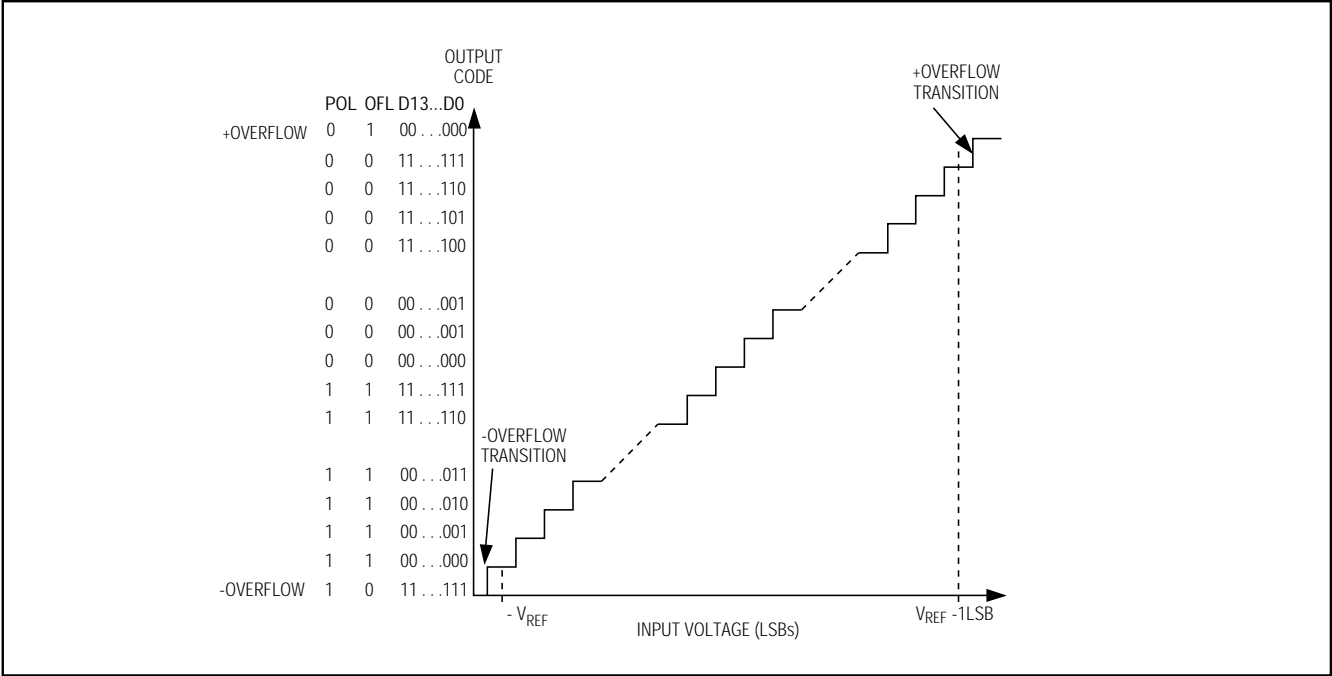
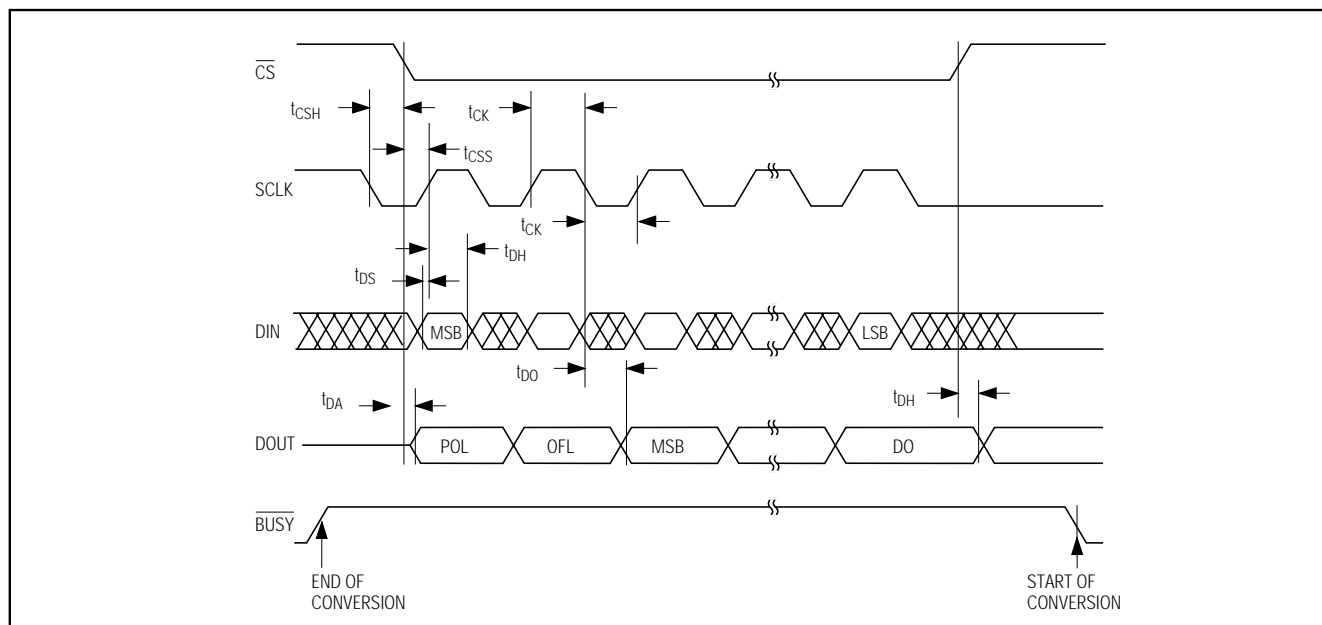

Figure 4. Differential Transfer Function
Figure 6. Detailed Serial-Interface Timing
The output data from the MAX110/MAX111 is arranged in twos-complement format (Figures 4, 5). The sign bit (POL) is shifted out first, followed by the overrange bit (OR), and the 14 data bits (MSB first) (see Figure 6). The MAX110 operates from $\pm 5V$ power supplies and converts low-frequency analog signals in the $\pm 3V$ range when using the maximum reference voltage of $V_{REF} = 3V$ ($V_{REF} = V_{REF+} - V_{REF-}$). Within the $\pm 3V$ input range, greater accuracy is obtained within $\pm 2.5V$ (see *Electrical Characteristics* for details). Note that a negative input voltage is defined as $V_{IN-} > V_{IN+}$. For the MAX110, the absolute voltage at any analog input pin must remain within the $(V_{SS} + 2.25V)$ to $(V_{DD} - 2.25V)$ range.
Data is transferred into and out of the serial I/O shift register by pulling \overline{CS} low and applying a serial clock at SCLK. This fully static shift register allows SCLK to range from DC to 2MHz. Output data from the ADC is clocked out on SCLK’s falling edge and should be read on SCLK’s rising edge. Input data to the ADC at DIN is clocked in on SCLK’s rising edge. A new conversion begins when \overline{CS} returns high, provided the MSB in the input control word (NO-OP) is a 1 (see *Using the MAX110/MAX111 with MICROWIRE, SPI, and QSPI Serial Interfaces*). Figure 6 shows the detailed serial-interface timing diagram.